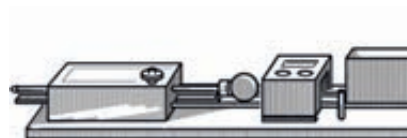

Fig.8
3. Place the wooden block correctly at the position of launch. The correct position is "0" on the scale taped on the track (see Fig.8).